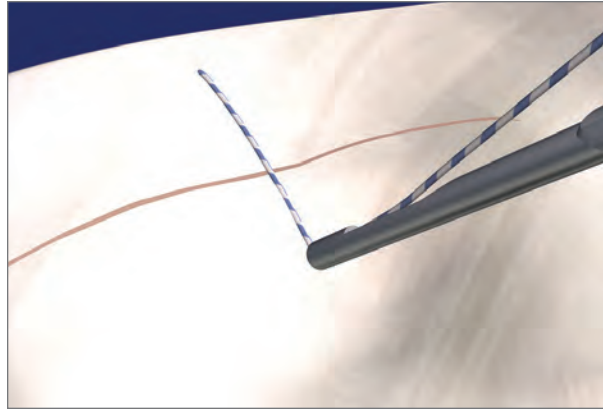
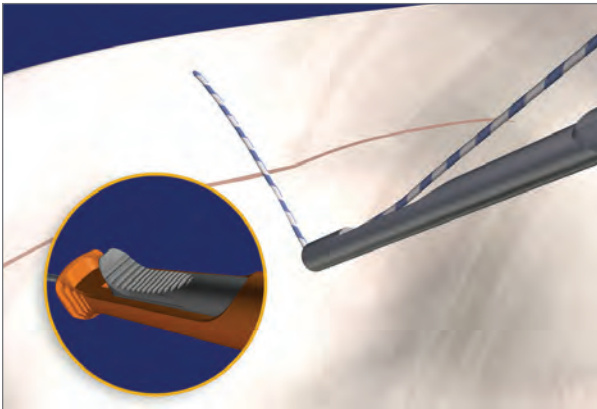

Figure 18. Push the knot pusher/suture cutter tip against the knot to recess the knot.
Figure 19. Push the trigger to cut the suture.
8. Position the tip of the knot pusher/suture cutter against the knot to ensure a 2–3 mm suture tail when the suture is cut. Continuing to hold the suture taut, push the knot pusher/suture cutter tip against the knot. In some cases it is possible to recess the knot into the surface of the meniscus, leaving the tail of the suture flush with the surface of the meniscus (**Figure 18**). Cut the suture by pushing the trigger forward (**Figures 19 and 20**). Because of the high strength of the suture, using a small arthroscopic basket punch or scissors to cut the suture often results in the tail of the suture being frayed.